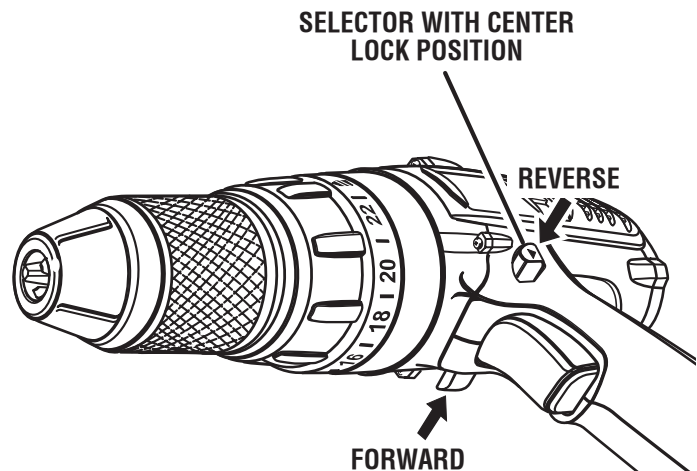

Fig. 4
- Lock the switch trigger on the drill by placing the direction of rotation (forward-reverse) selector in center position. *See Figure 4.*
- Lock the switch trigger on the drill by placing the direction of rotation selector in center position. *See Figure 4.*
See Figure 4.
- Lock the switch trigger by placing the direction of rotation selector in center position. See Figure 4.